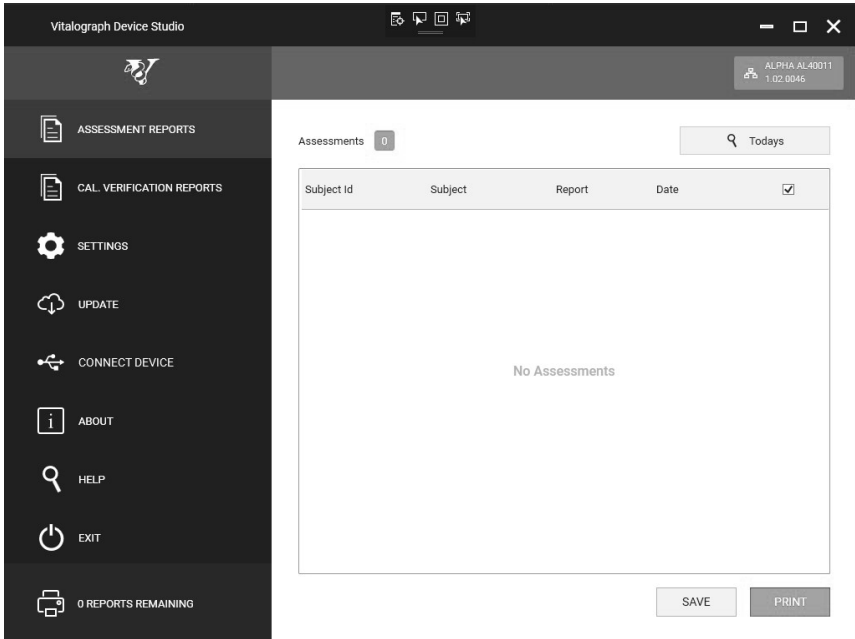

Figure 7
3. Device Studio will search for assessments on the device (see Figure 7) Available assessments are shown on screen and may be selected and printed and/or saved (see Figure 8).